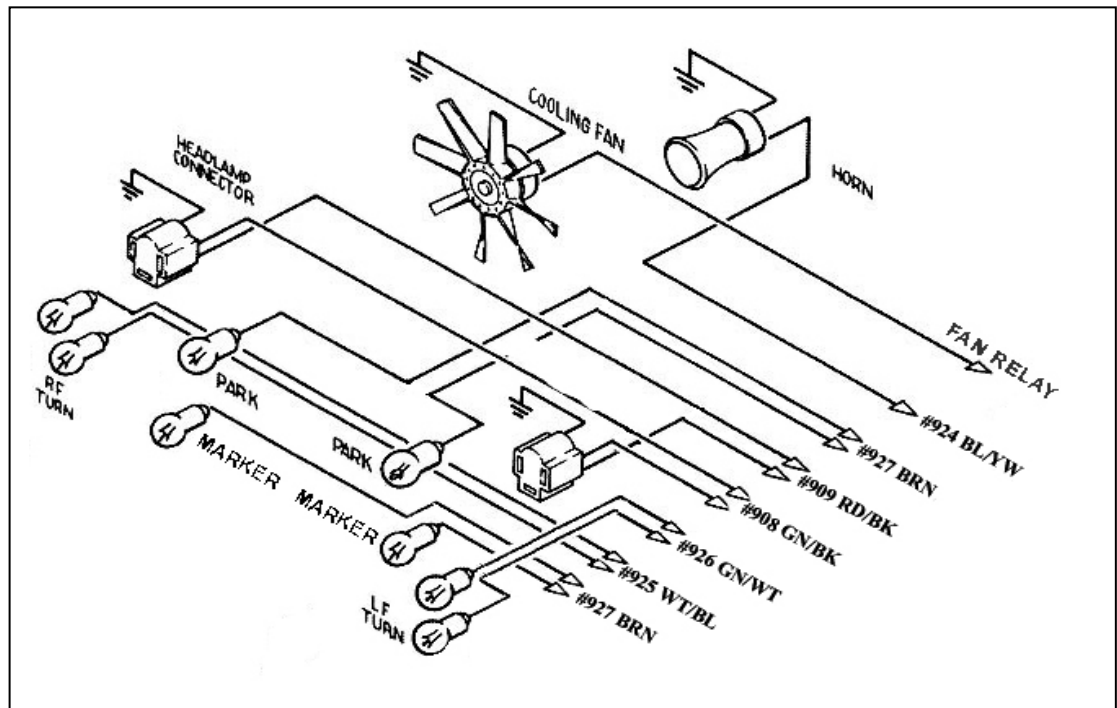

Figure 8-3A HEADLIGHT SECTION A Wiring
8.3 HEADLIGHT SECTION A. See Figure 8-3A.